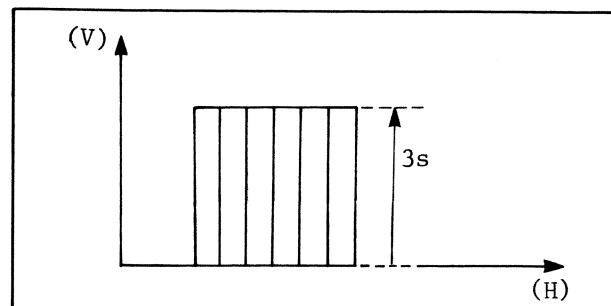

Fig. 39
- (4) Reconnect oscilloscope to TP7. Reset oscilloscope time base to 50μs/cm.
- (5) Holding down any key will display six growing waves on oscilloscope; CH1 being at leftmost position. Align rise time of remaining waves to CH1 rise time (coincidental max. to 0 transitions is desired.) (Fig. 39)